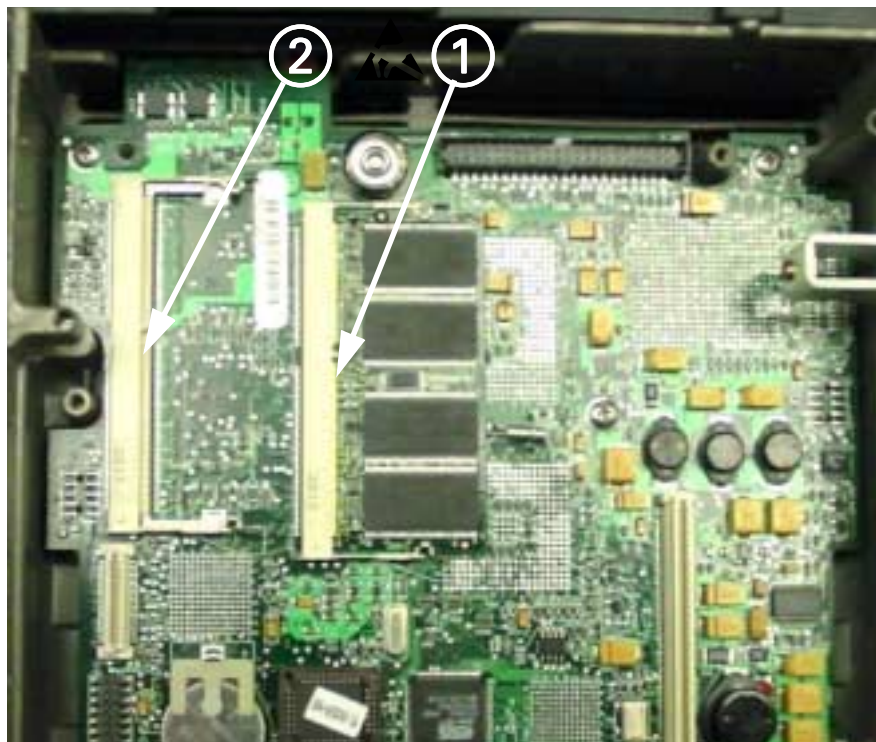

Figure 18-9 Memory slots
6. Lift defective memory module ① or ② (not installed in Figure 18-9) out of memory slot and remove module.
7. Align pins on replacement memory module to connector on motherboard (① or ② in Figure 18-9).